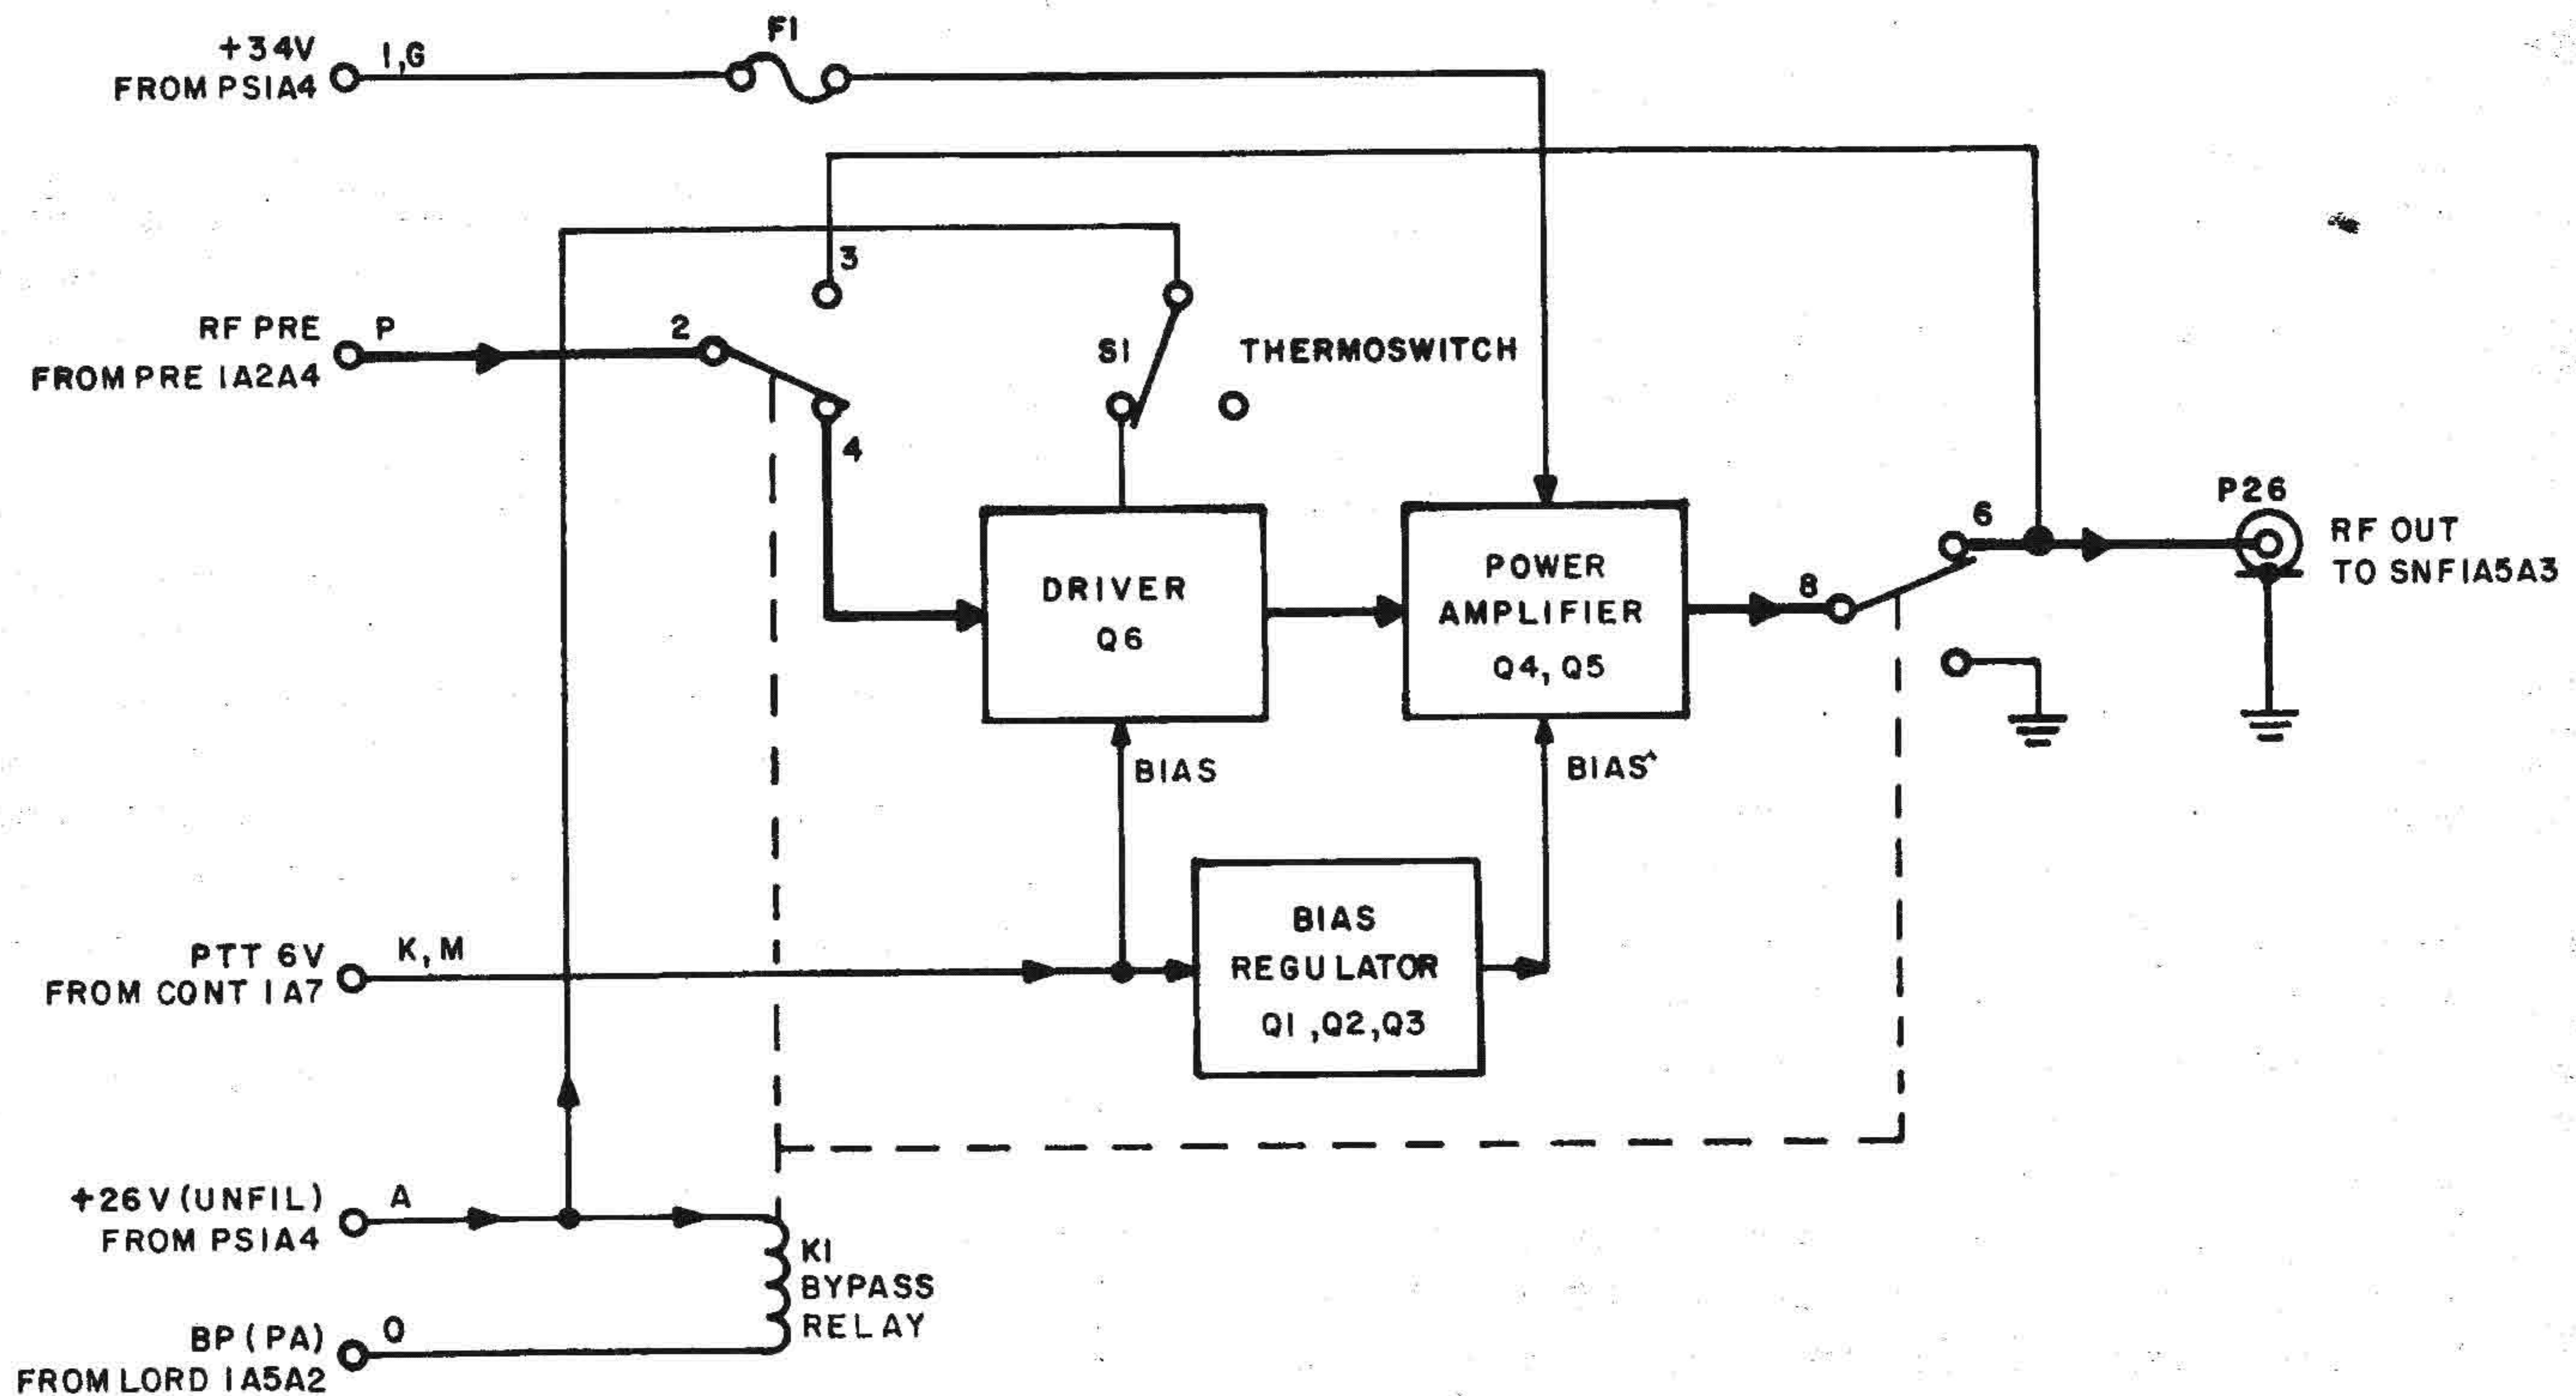

Fig. 2-25. Module PA1A6, block diagram
2-11. Module PA 1A6 (fig. 2-25, 2-26)
a. Block Diagram Analysis (fig. 2-25). Power amplifier module PA 1A6 receives the +20 dBm (100 mW) output of the RF preamplifier in module PRE 1A2A4 (para. 2-6.b) and linearly amplifies it to +45 dBm (30 W). There are two amplification stages: a driver stage and a power stage. The driver stage is powered by the primary DC voltage arriving from module PS 1A4 on the +26V (UNFIL) line.